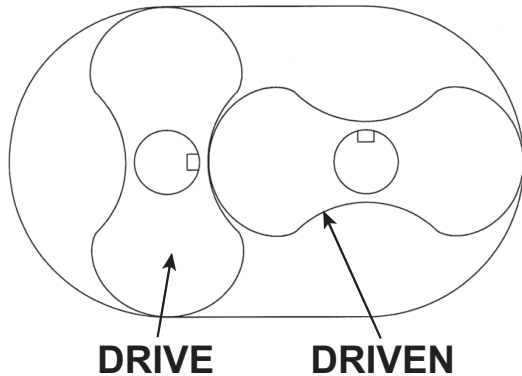

Figure 8-3 – Keyways
3. Place the free end plate on a suitable blocking with the rotor side up. Stand the rotors into each bore with the gear end shafts up and keyways facing in the direction shown in **Figure 8-3**.